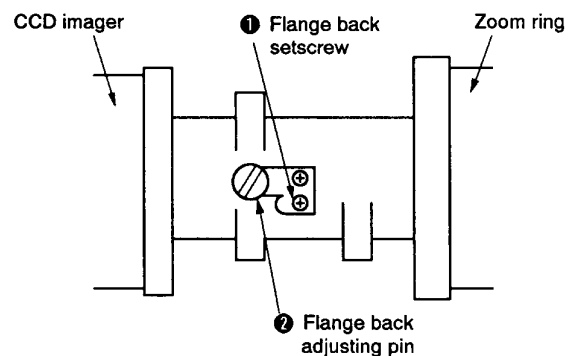

Fig. 7-12.
- 7) Open the DK-10P board and loosen flange back setscrew ① with a Phillips screwdriver. (See Fig. 7-12.)
- 8) By turning the flange back adjusting pin ② while watching the monitor screen, attain the optimum definition of a wedge at the Siemens star center on the screen. (Turn it a few turns to the left and right to ensure optimum definition.)